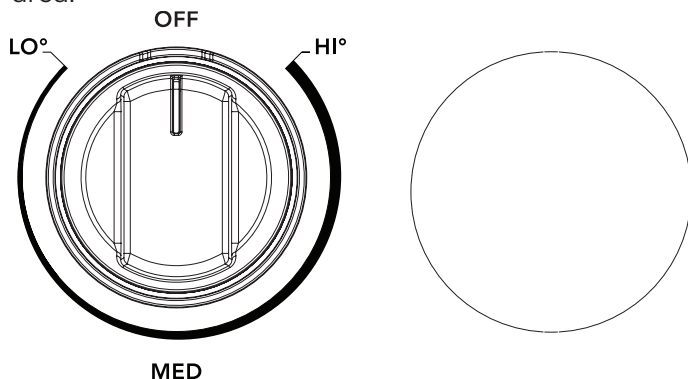

Figure 10: Single Radiant surface element
2. Push in and turn the surface control knob in either direction (Figure 10) to the desired setting (refer to the “Suggested radiant surface element settings” in Table 1).
Start most cooking operations on a higher setting and then turn to a lower setting to finish cooking. The surface control knobs do not have to be set exactly on a particular spot. Use the graphics provided as a guide and adjust the control knob as needed (see Figure 10).